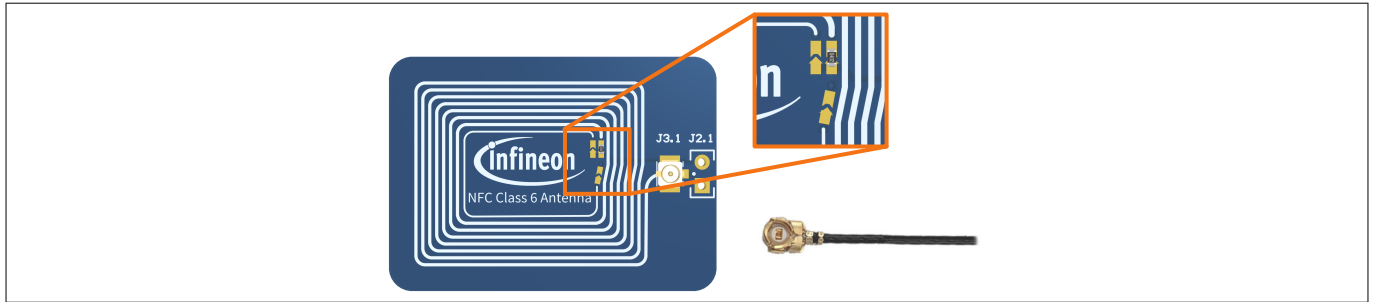

Figure 17 Class 6 shield antenna in its default configuration with the 10 cm UMCC cable (7 turns)
- Connect the NBT Secure Shield and the Class 6 shield antenna (in its default configuration, see Figure 17) using the included 10 cm UMCC cable